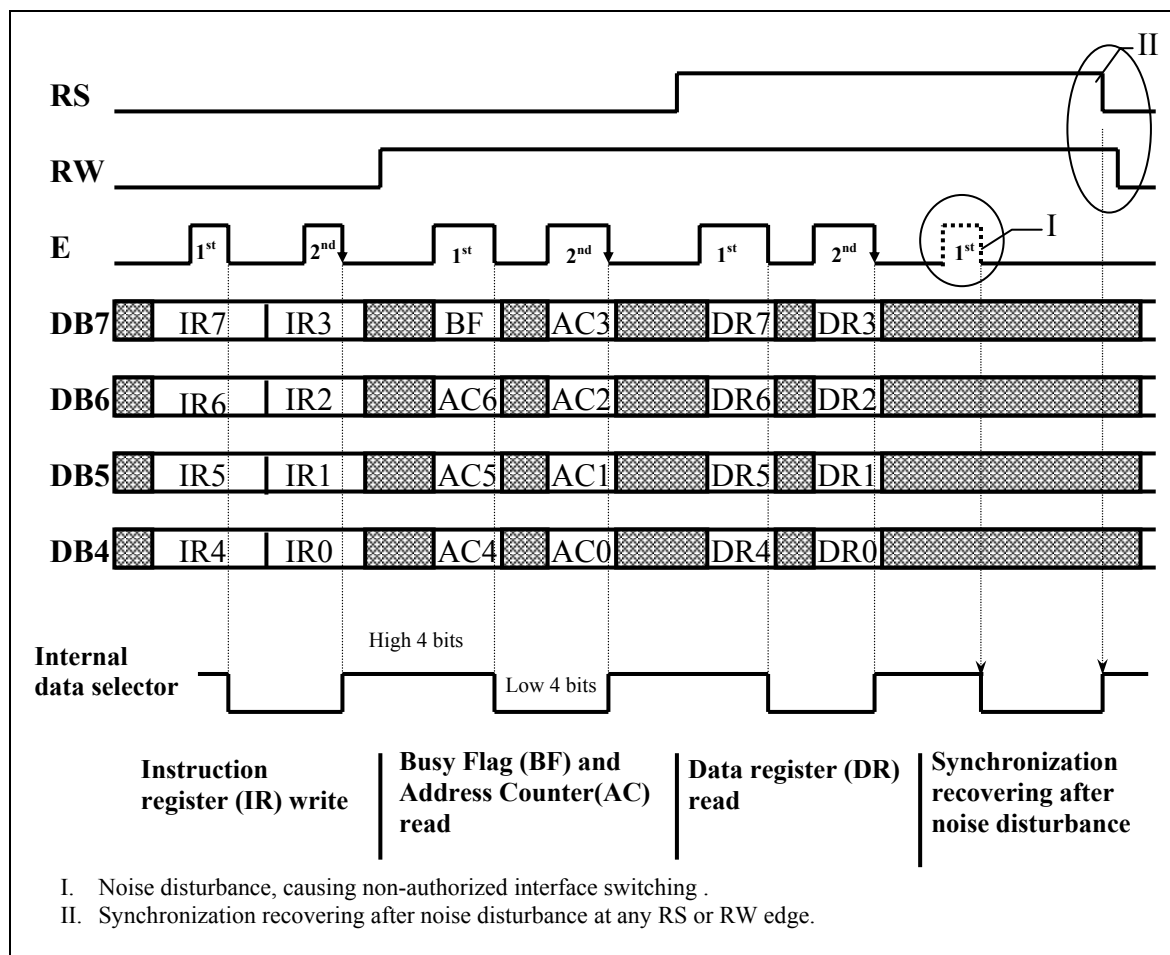

Figure 3. Example of 4-bit interface operation.
- In 4-bit mode (DL=0) only 4 bits (DB4-DB7) are used for exchanging data with MPU. DB0-DB3 bits are not used (pull up to VDD). In 4-bit interface bus mode, instructions and data are transmitted in two passes, corresponding to two E pulses (see figure 3). The four high order bits (DB4 to DB7 for 8-bit operation) are transferred before the four low order bits (DB0 to DB3). Internal data selector multiplexes high and low 4-bit data groups of register, switching at E fall. Instruction writing is complete and BF is set to "1" after the second E pulse. BF must be checked after the second E pulse of instruction.
To prevent this situation, the controller has the interface synchronization function, which provides the correct order of data following through 4-bit bus: any change of both RS or RW signals resets the selector of the data to the initial status (see figure 3). Also it is forbidden to change RS and RW status during submission of the instruction between E pulses.